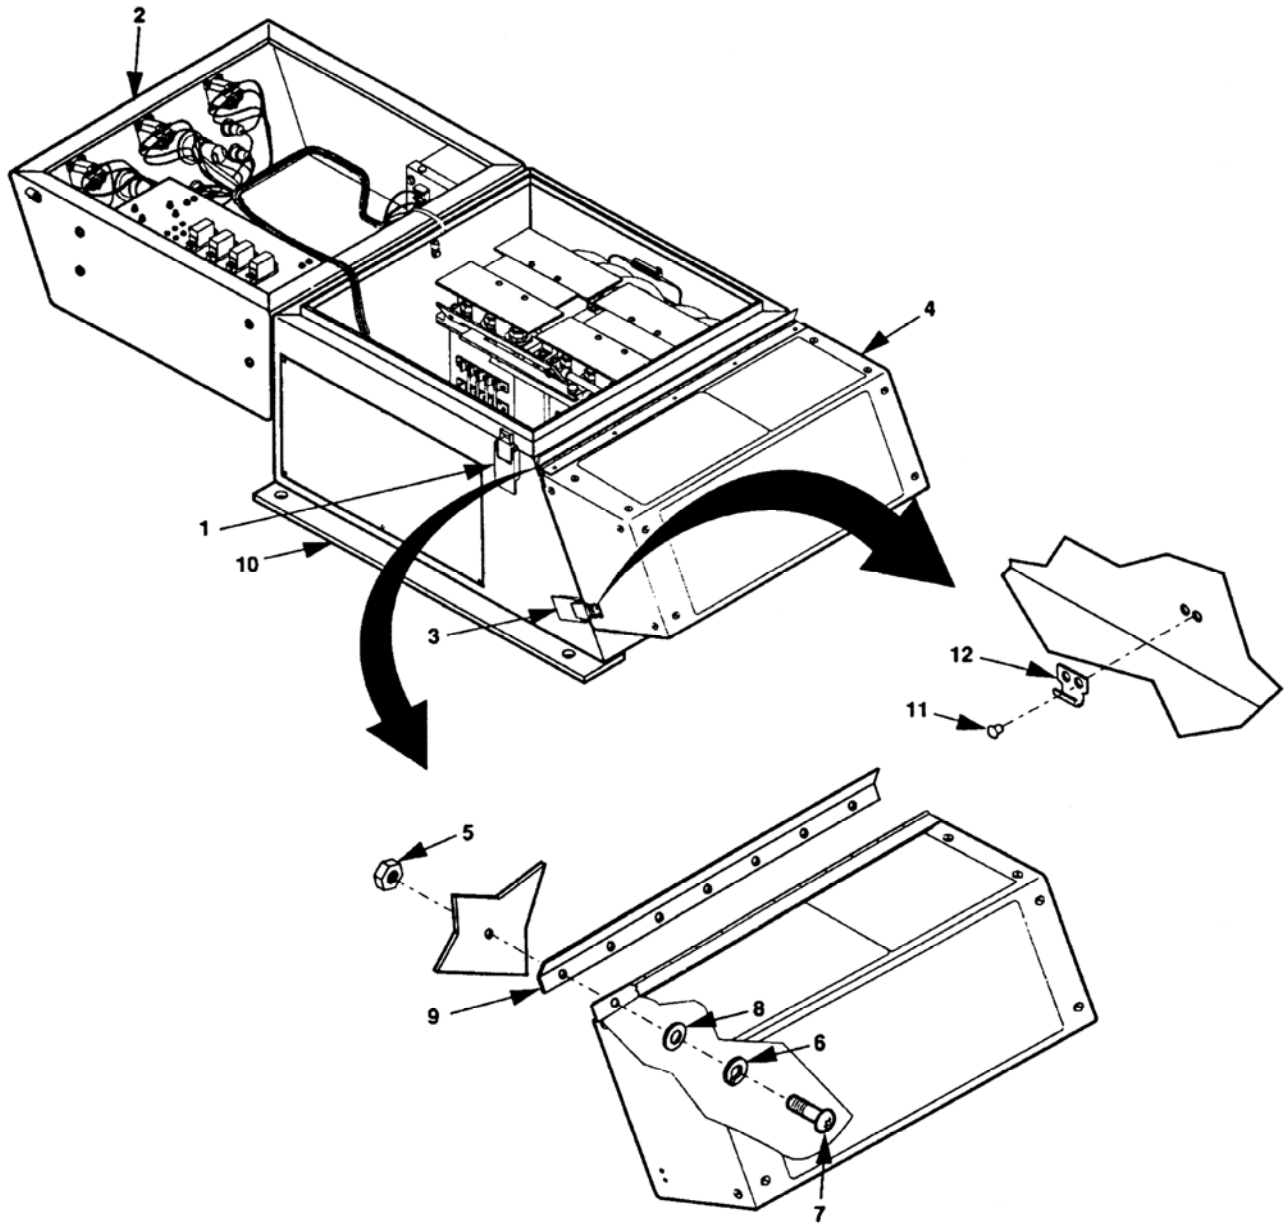

Figure 4-18. Load Terminal Cover (OLD).
1. Release clamping catches (1, figure 4-18) and open switch box cover (2).
2. Release clamping catches (3) and open load terminal cover (4).
3. Remove six nuts (5), lock washers (6), screws (7), and flat washers (8) and remove load terminal cover (4) and stop (9) from switch box (10).